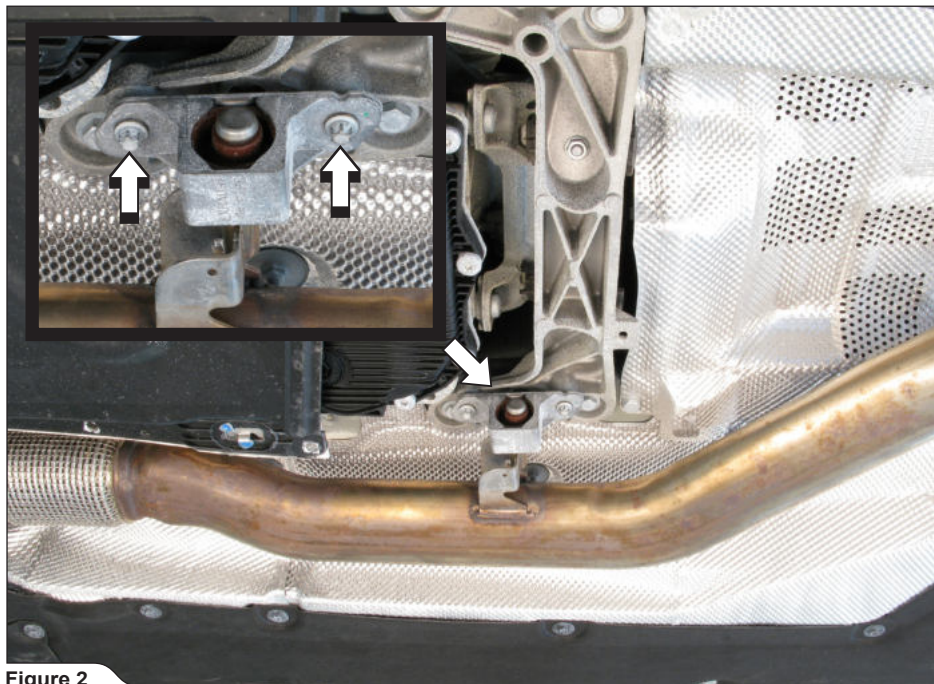

Figure 2
2. Support the exhaust system and unscrew the marked bracket bolts (**Figure 2**).